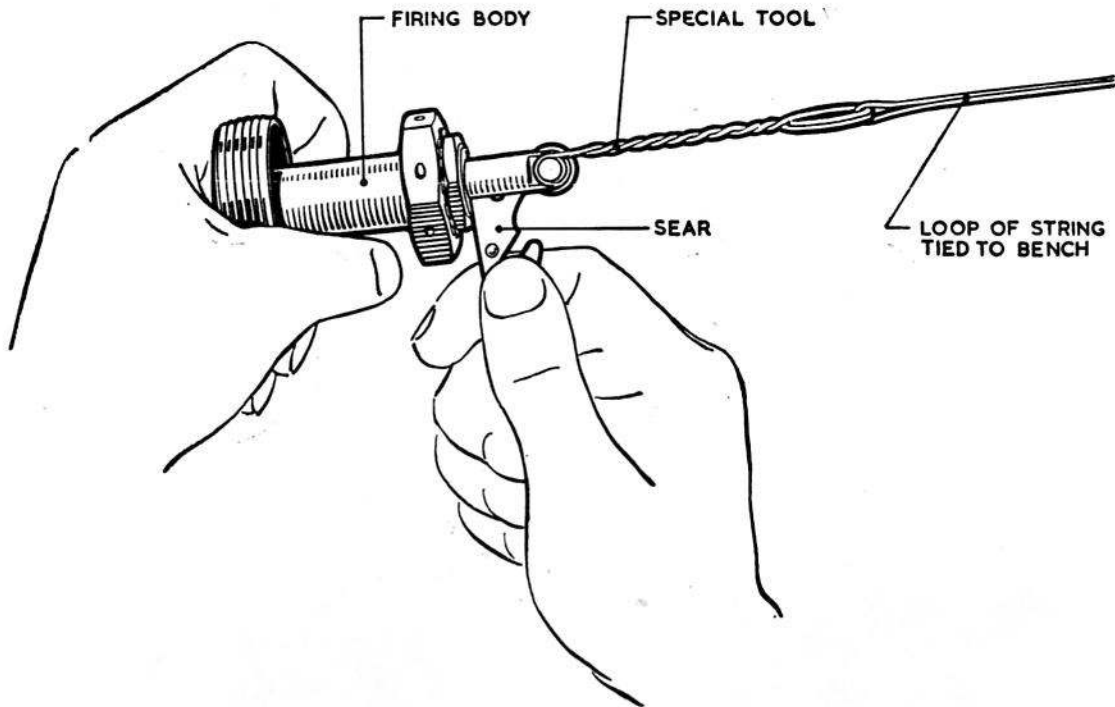
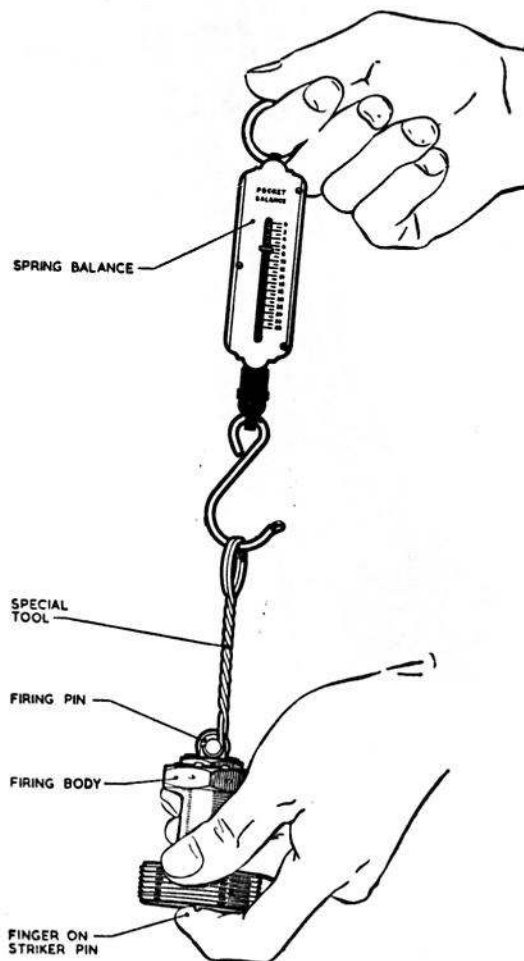

Fig. 4. Lifting firing pin with special tool
Fig. 5. Testing firing spring
- (2) With the firing pin in the fired position, place the protrusion gauge in position in the firing unit. If the plunger is flush with, or above, the level of the body, the protrusion is correct.
- (3) Lift the firing pin with the special tool (fig. 4) and check that the firing sear moves freely in the slot, and that the firing pin moves freely throughout its stroke. Remove the sear and check the initial compression of the firing spring by spring balance as shown in fig. 5. The firing pin should not start to move until 7 lb. is registered. The initial movement of the firing pin can be detected by holding the finger over the projecting end of the striker pin.